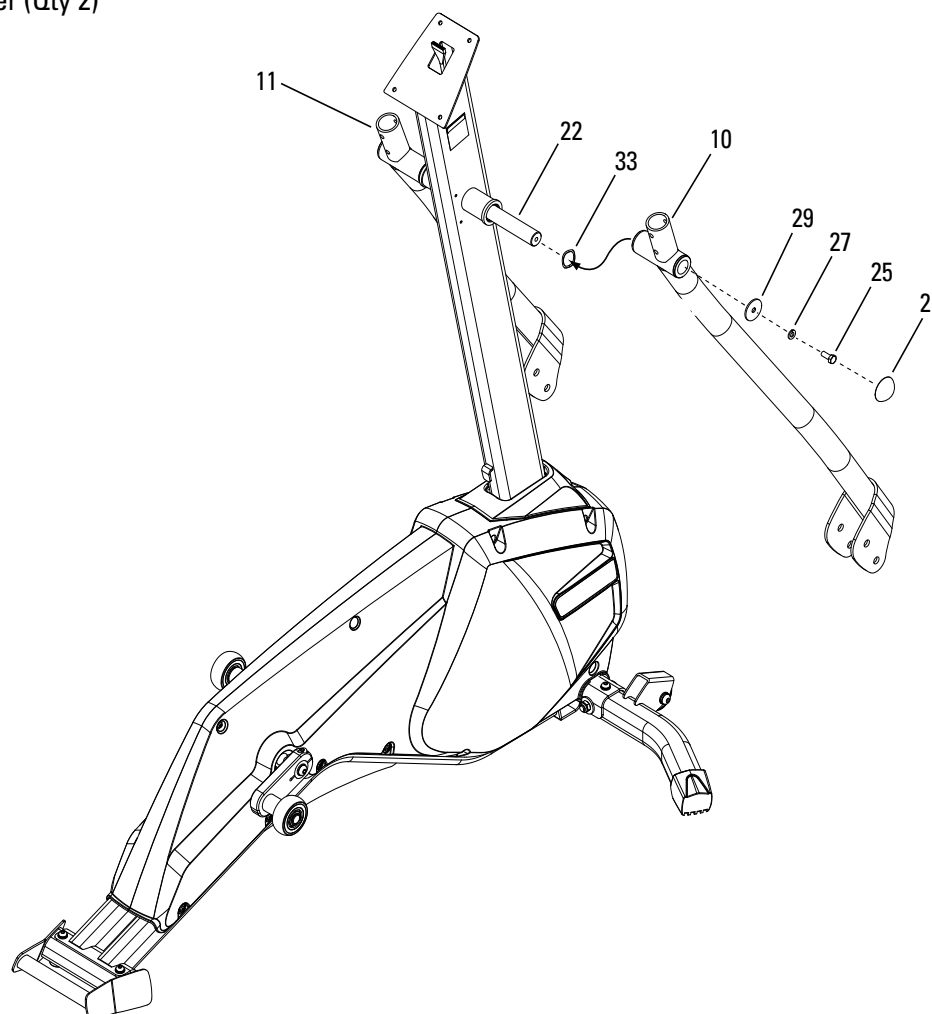

Figure 5a
5-1 Put one Wave Washer on the Arm Pivot Rod (22) on the right side (Figure 5a).
5-2 Install the Right Swing Arm on the Arm Pivot Rod with one M8 Wide Flat Washer, M8 Spring Lock Washer and M8 x 20 Hex Head Bolt (Figure 5a).
5-3 Tighten the hardware on the Swing Arms. Install the Round Covers (Figure 5a).